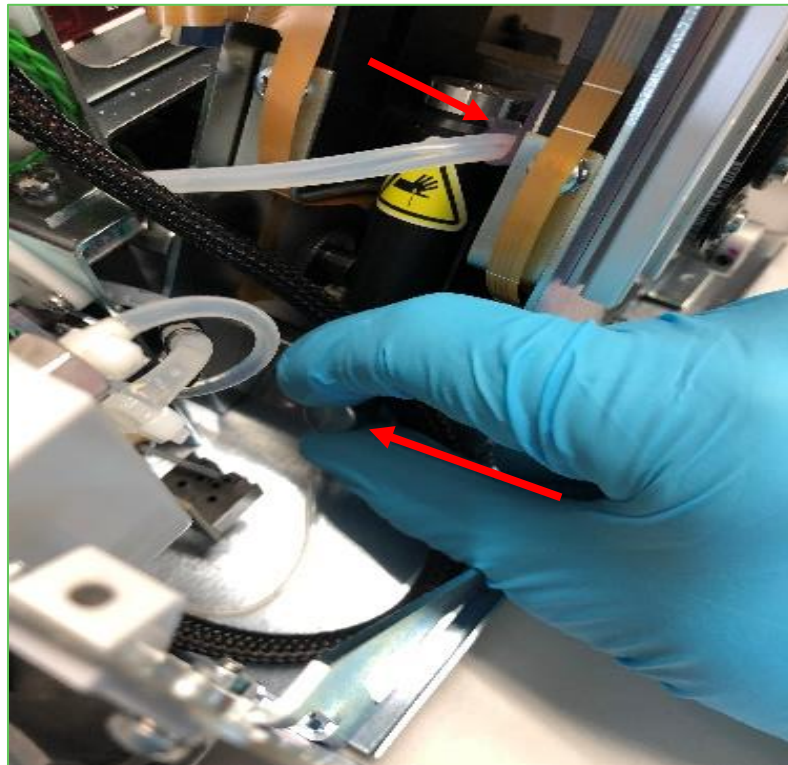

Figure 10
15. Secure the Piston Assembly to the mounting block with the long thumbscrew. (Figure 10)
16. Re-secure the Wash Pump tubing to the tubing clip to the side of the Piston Assembly. (Figure 10)